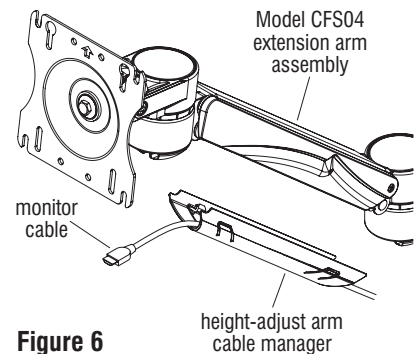

Figure 6
2. Lay cables in height-adjust arm cable manager (Figure 6).